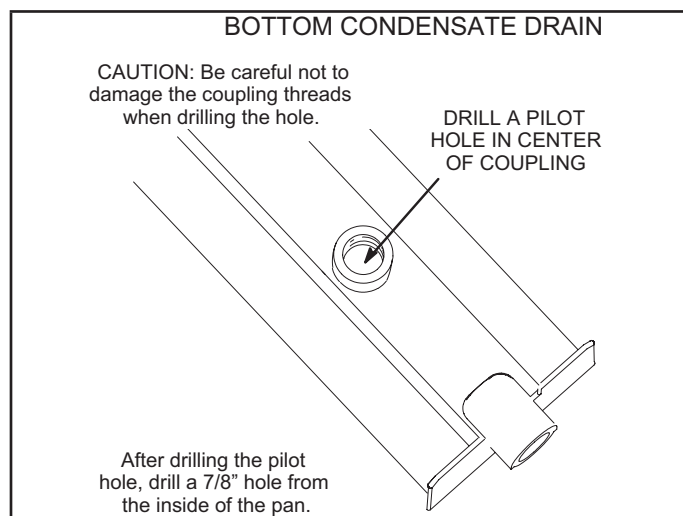

FIGURE 10
- 3 - Turn the drain pan upside down and drill a pilot hole through the bottom of the drain pan in the center of the coupling. See FIGURE 10.